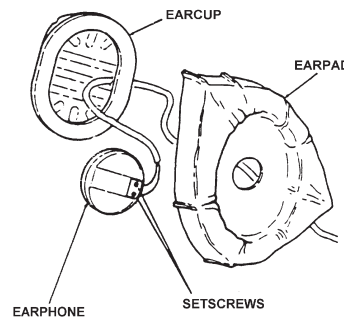

Figure 3-25. Earphone and Setscrews
- f. Referring to Figure 3-25, loosen the two setscrews and remove earphone contacts from the earphone.